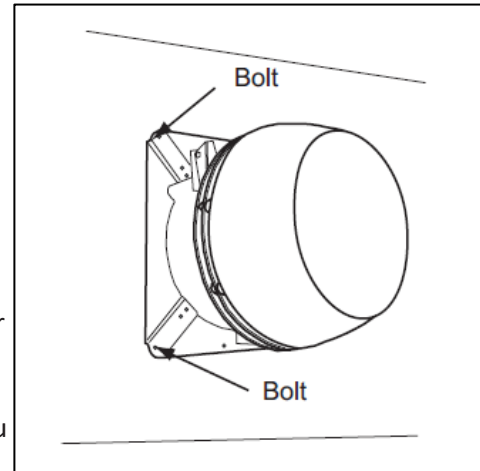

FIGURE 35
- 5) To ease installation, detach the fan base by removing the bolts holding the hinges together. Center the fan base over the outlet and bolt the base onto the wall with the hinges pointing upwards (**Figure 35**).